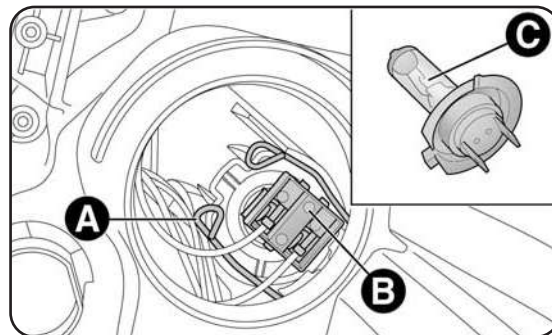

fig. 16
- release the bulb holder clip A - fig. 16;